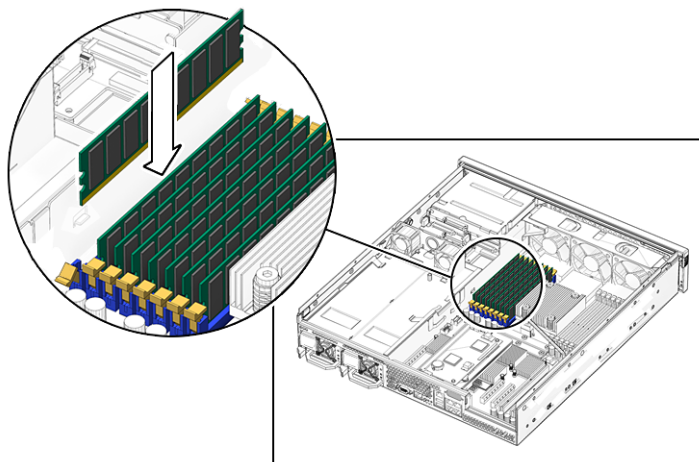

FIGURE 4-13 Inserting the DIMM Into the Slot
5. Push the DIMM into the slot until the ejector levers close with a click (FIGURE 4-13).